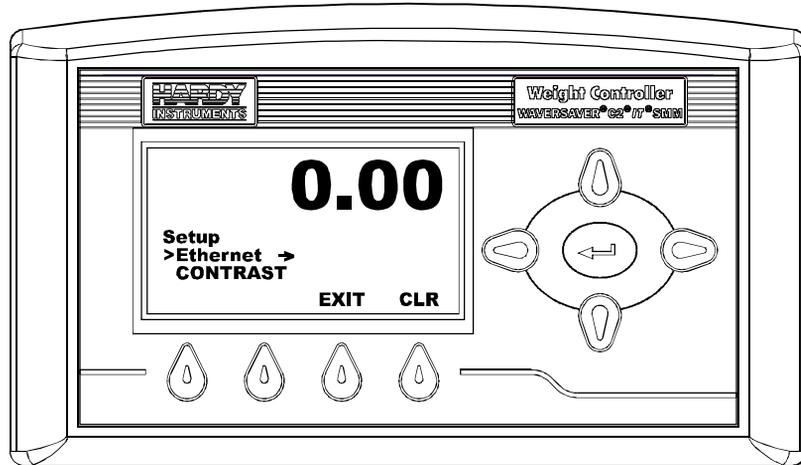

FIG. 108 SETUP MENU/SELECTING ETHERNET
Step 1. Press the Down arrow button until the cursor is in front of Ethernet. (See Fig. 108)